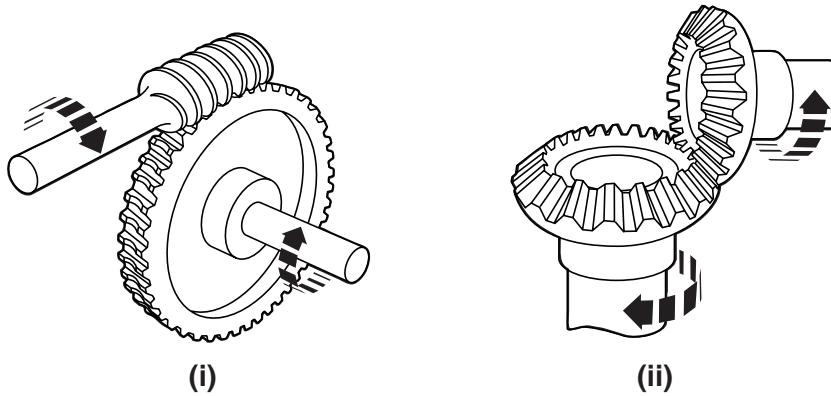

Fig. 4
- 7 Fig. 4 shows **two** types of gear system that transfer rotary motion through 90°.